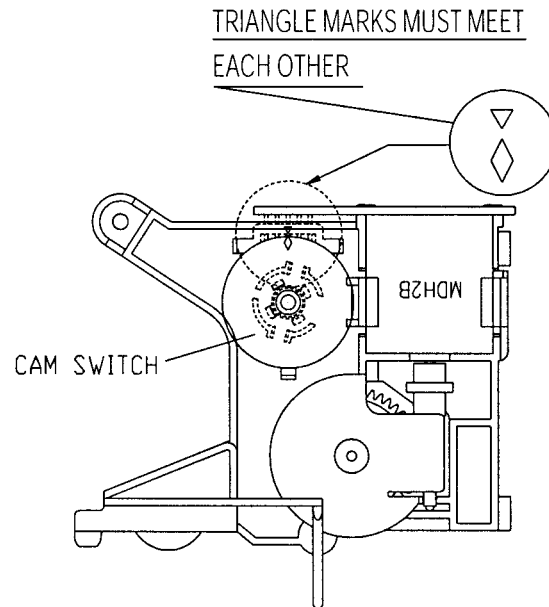

Fig.4-3 DATUM POSITION OF CAM SWITCH TRIANGULAR MARKS
- c. When reassembling the L/C BRACKET TOTAL ASSEMBLY on the MAINBASE, make sure that the two triangular marks of CAM SWITCH are aligned with each other as shown in Fig.4-3.